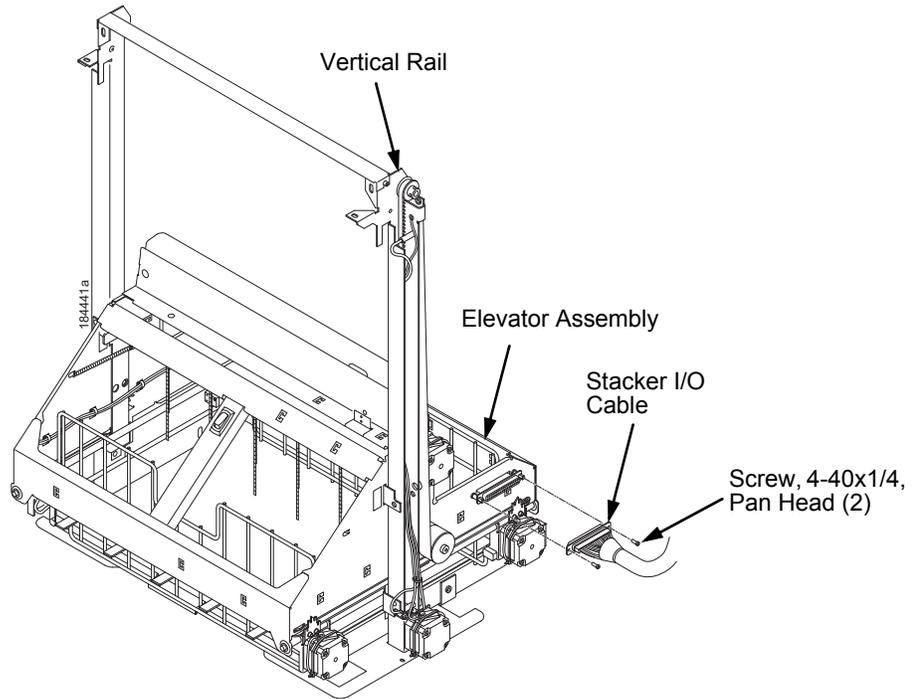

Figure 17. The Elevator I/O Cable
(Figure 17.)
12. Connect the elevator I/O cable to the elevator assembly and install the two 4-40 x 1/4 inch screws, as shown in Figure 17.